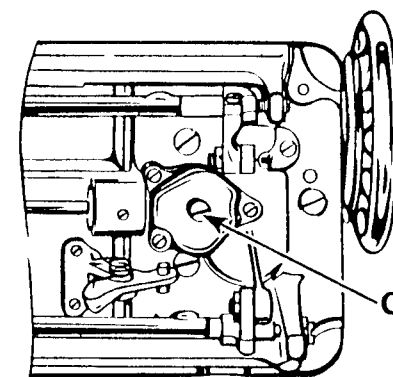

Fig. 5. Lower Gear Lubrication
- Remove gear case screw C, Fig. 5.
- Replace and securely tighten screw C, Fig. 5.